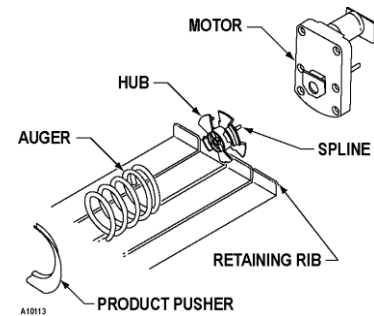

Figure 6f. Motor & Auger (Standard Tray)
1. Remove the motor cover. See Figure 6f.